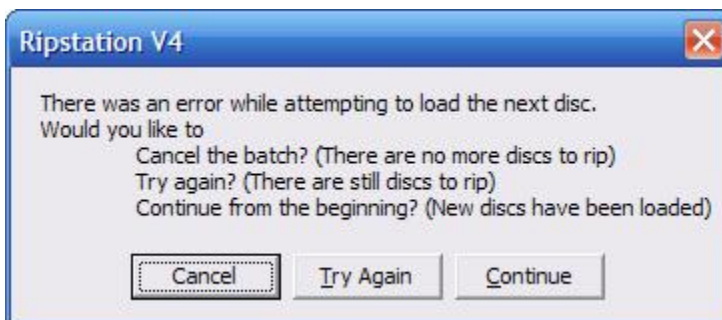

Figure 4.18 – Batch Complete Dialog
At the end of the batch the screen in figure 4.18 will be presented.
- At the end of the batch, the dialog box shown in figure 4.18 will appear, either click the 'No, I'm Done!' button to complete the process or add more CDs to the spindle, key in the number and press the 'Yes, Add More!' button, at which point ripping will recommence.